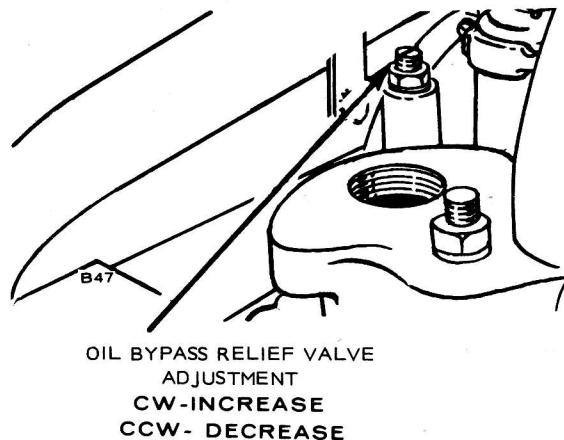

FIGURE 30. BYPASS VALVE ADJUSTMENT
1. Remove capscrew or slotted stud and locknut located behind gear cover and under governor arm. Location of the capscrew is the same as shown for the slotted stud and locknut in Figure 30.
This adjustment applies to all Spec G models except the CCKA-MS/2116G and CCKA-MS/2567G models. To increase oil pressure, loosen the locknut and turn the stud inward (Figure 30). To decrease oil pressure, loosen the locknut and turn the stud outward. Be sure to tighten the locknut securely after making an adjustment. The spring and plunger can be removed and cleaned.